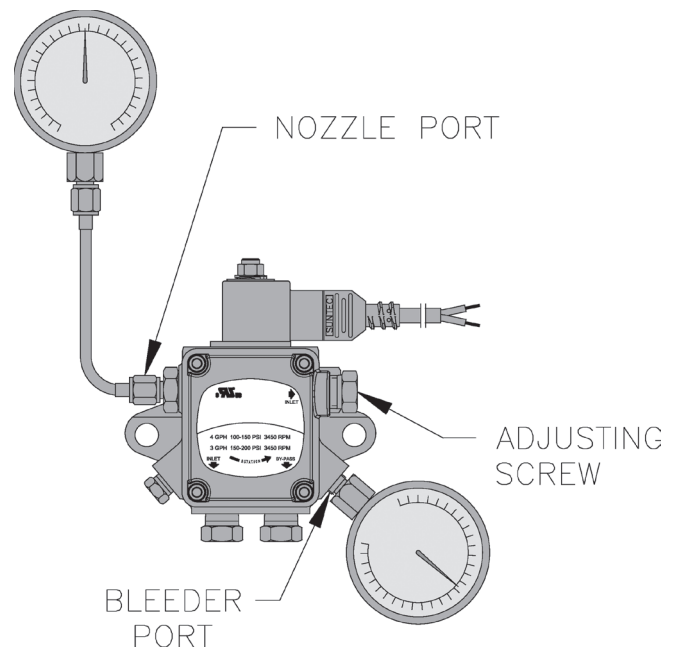

Figure 28: Adjusting Fuel Pump Pressure
- a. When checking a fuel unit's operating pressure, a reliable pressure gauge may be installed in either the bleeder port or the nozzle port. See Figure 28.